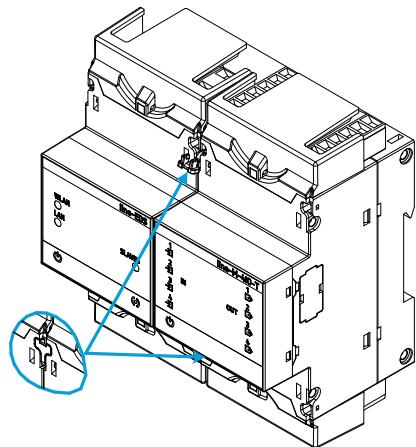

Figure 10: Installation step 3.
- 3.- Connect both devices and fasten them by pushing the front clips down (**Figure 10**).